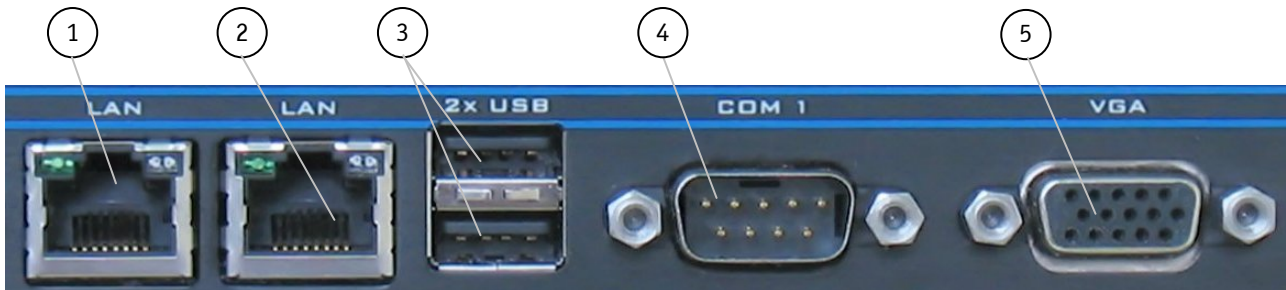

Fig. 11: External Interfaces of the integrated SBC
These ports (Fig. 11, pos. 1 and pos. 2) consist of RJ45 connectors with integrated LEDs and support a transfer rate of 10/100/1000Mbps.
You can connect various USB devices to these two USB 2.0 interface connectors (Fig. 11, pos. 3).
The serial port COM1 (Fig. 11, pos. 4) consists of a 9-pin, RS232 configured D-SUB connector that allows the connection of a serial peripheral.
This port (Fig. 11, pos. 5) consists of a 15-pin D-SUB connector. You can connect an analog monitor to this connector.